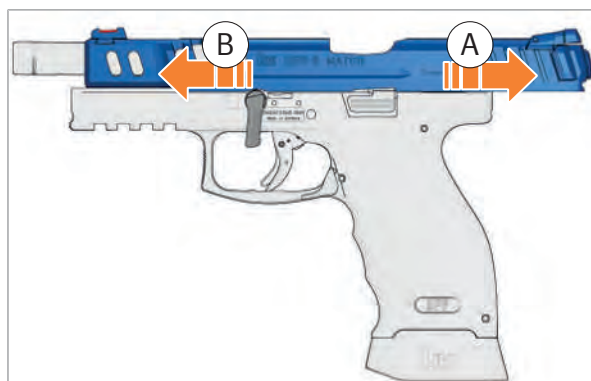

Fig. 58: Pushing slide from frame
4. Pull slide back and hold it (Fig. 58).
5. Move slide forwards slowly and push it from frame (Fig. 58).